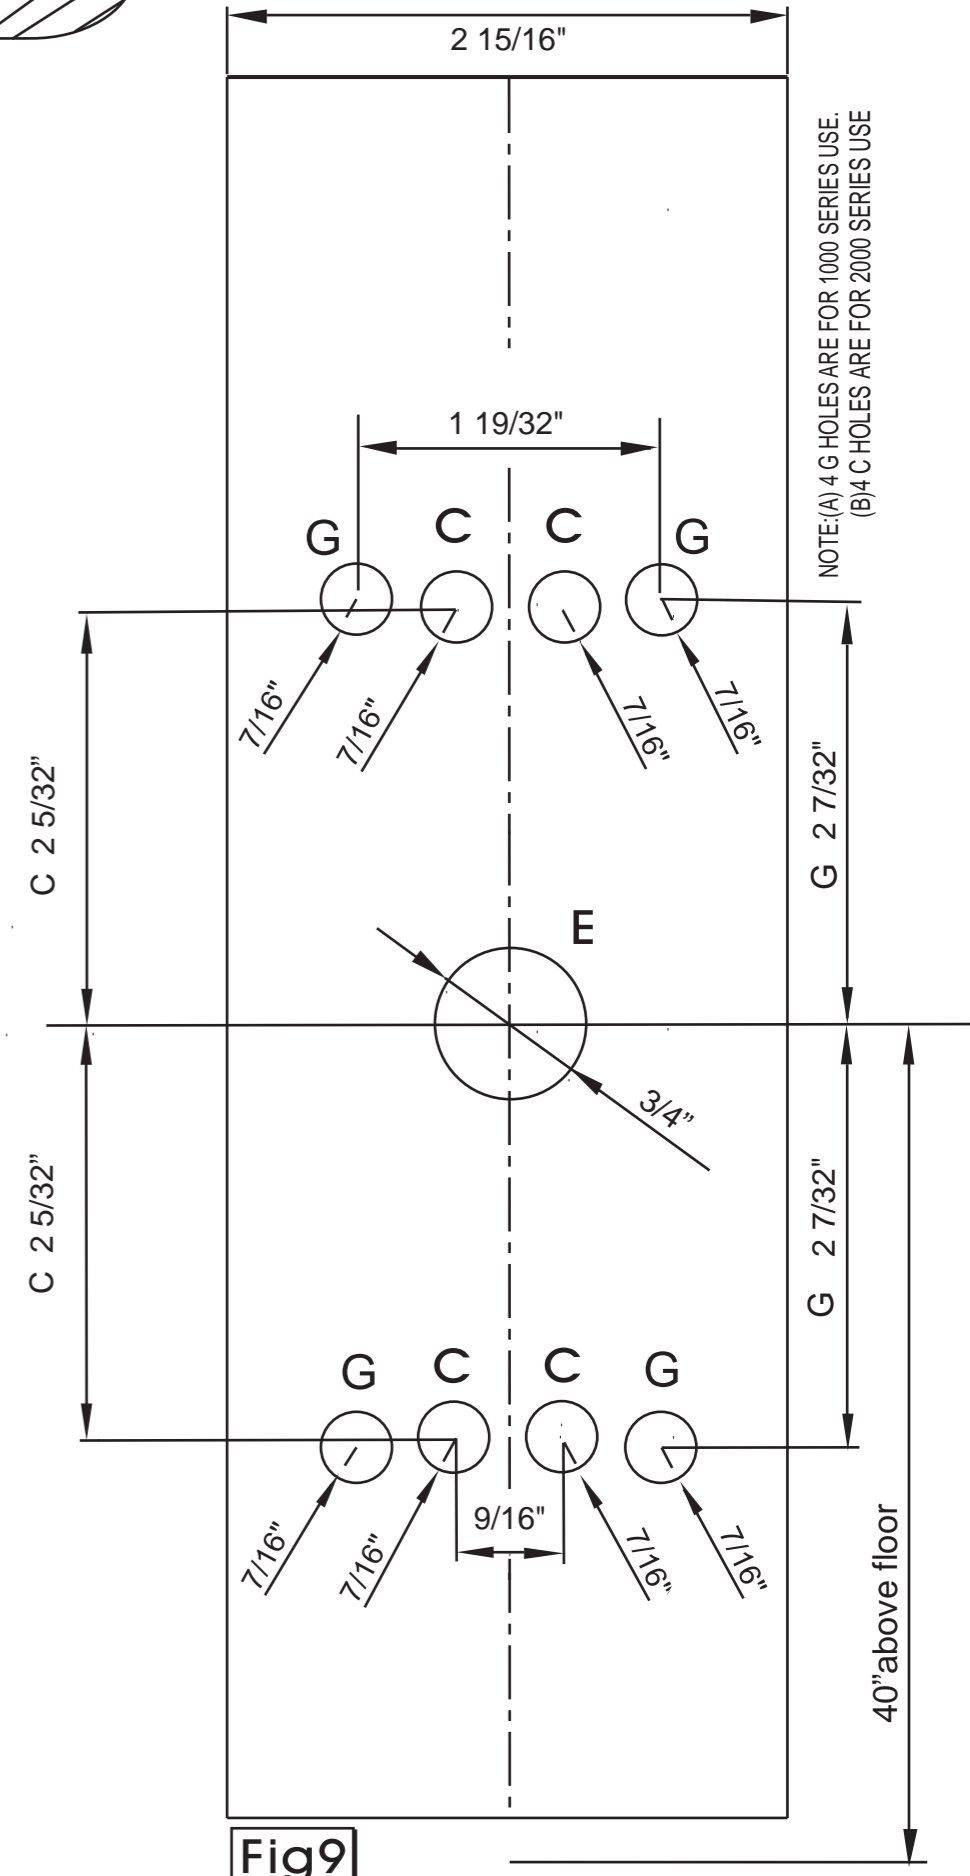

Fig 9
4. FOR 1000 SERIES SCREW THRU BOLTS INTO (4) G HOLES & FOR 2000 SERIES, SCREW THRU BOLTS INTO (4) C HOLES AND TIGHTEN.
7. PROCEED WITH TEMPLATING DOOR AS SHOWN IN FIG 7 AND FIG 9 FOR EITHER 1000 OR 2000 SERIES.